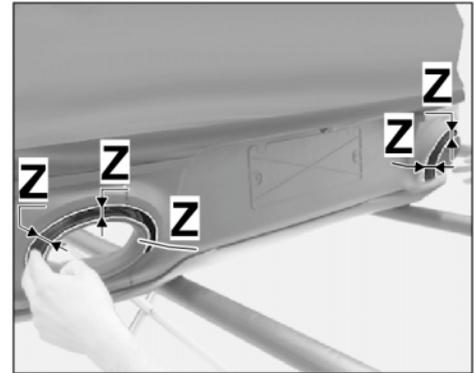

Figure 12
- 3.4.2 Turn the rear bumper and check that the gap = "dimension Z" between the new sports tailpipes and exhaust pipe cover (rear bumper – left and right side of vehicle) is symmetrically constant (⇒ *Figure 12*).